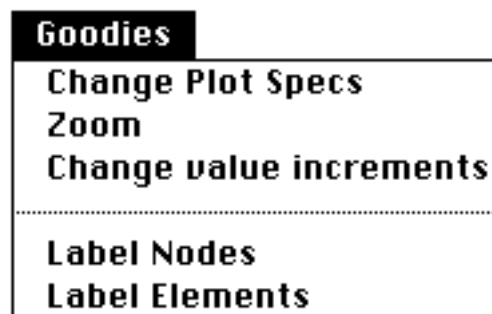
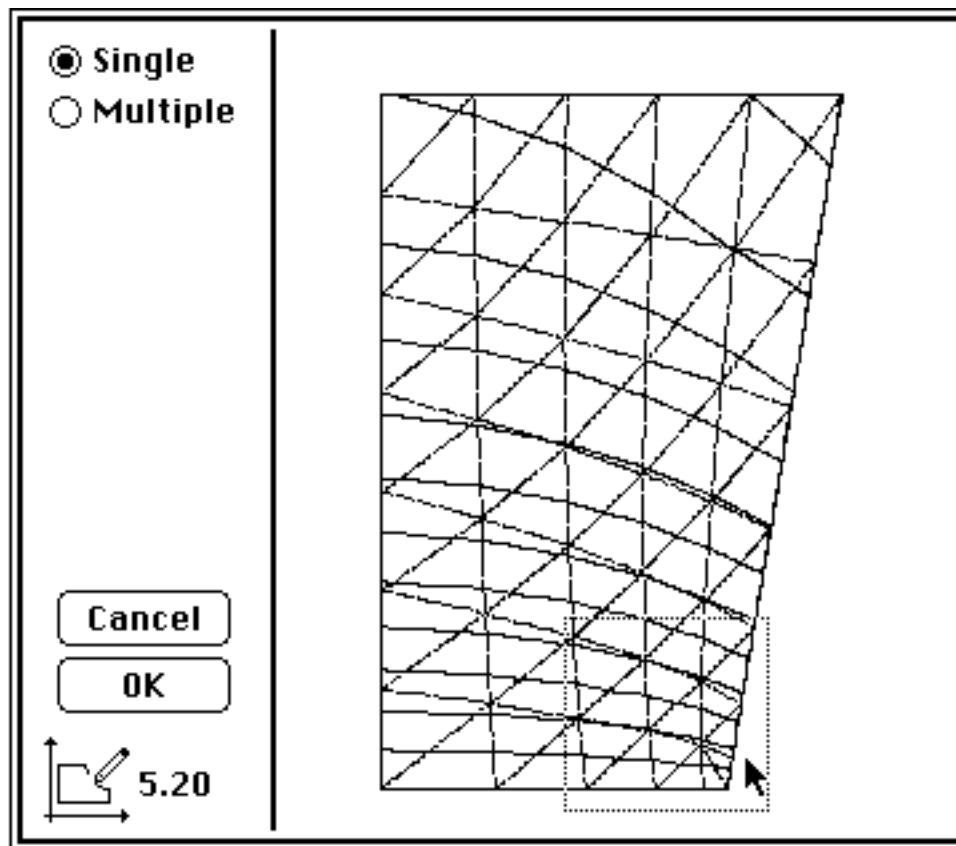

Fig 3.89 Goodies menu
Fig 3.90 Zoom window
- Select Change Plot Specs (Fig 3.89) to redraw the same plot but with a different set of labels chosen from the Specifications dialog box.
- Select Zoom (Fig 3.89) to enlarge a rectangular portion of the plot (Single—Fig 3.90) or to plot one or more equal-sized rectangular regions (Multiple). In the latter case, you can combine the composite of these rectangles to produce an enlarged view of the plot. See the discussion for screen size plots. If you are using a LaserWriter for output, you can choose automatic size changes from 25 to 400% of the standard page at print time. (See the corresponding discussion for screen-sized plots.)
- Select Change value increments (Fig 3.89) to adjust the number and value of contour values (Fig 3.91).